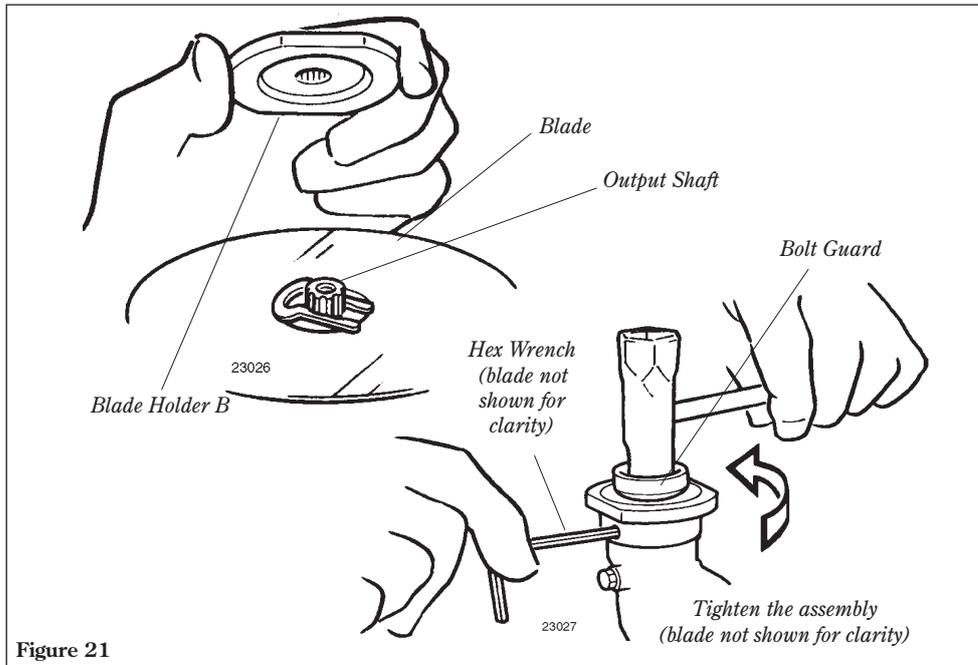

Figure 21
5. Install blade holder "B" on the output shaft. See Figure 21. The recess in the holder must completely cover the safety clip, and must fit tightly against the blade.